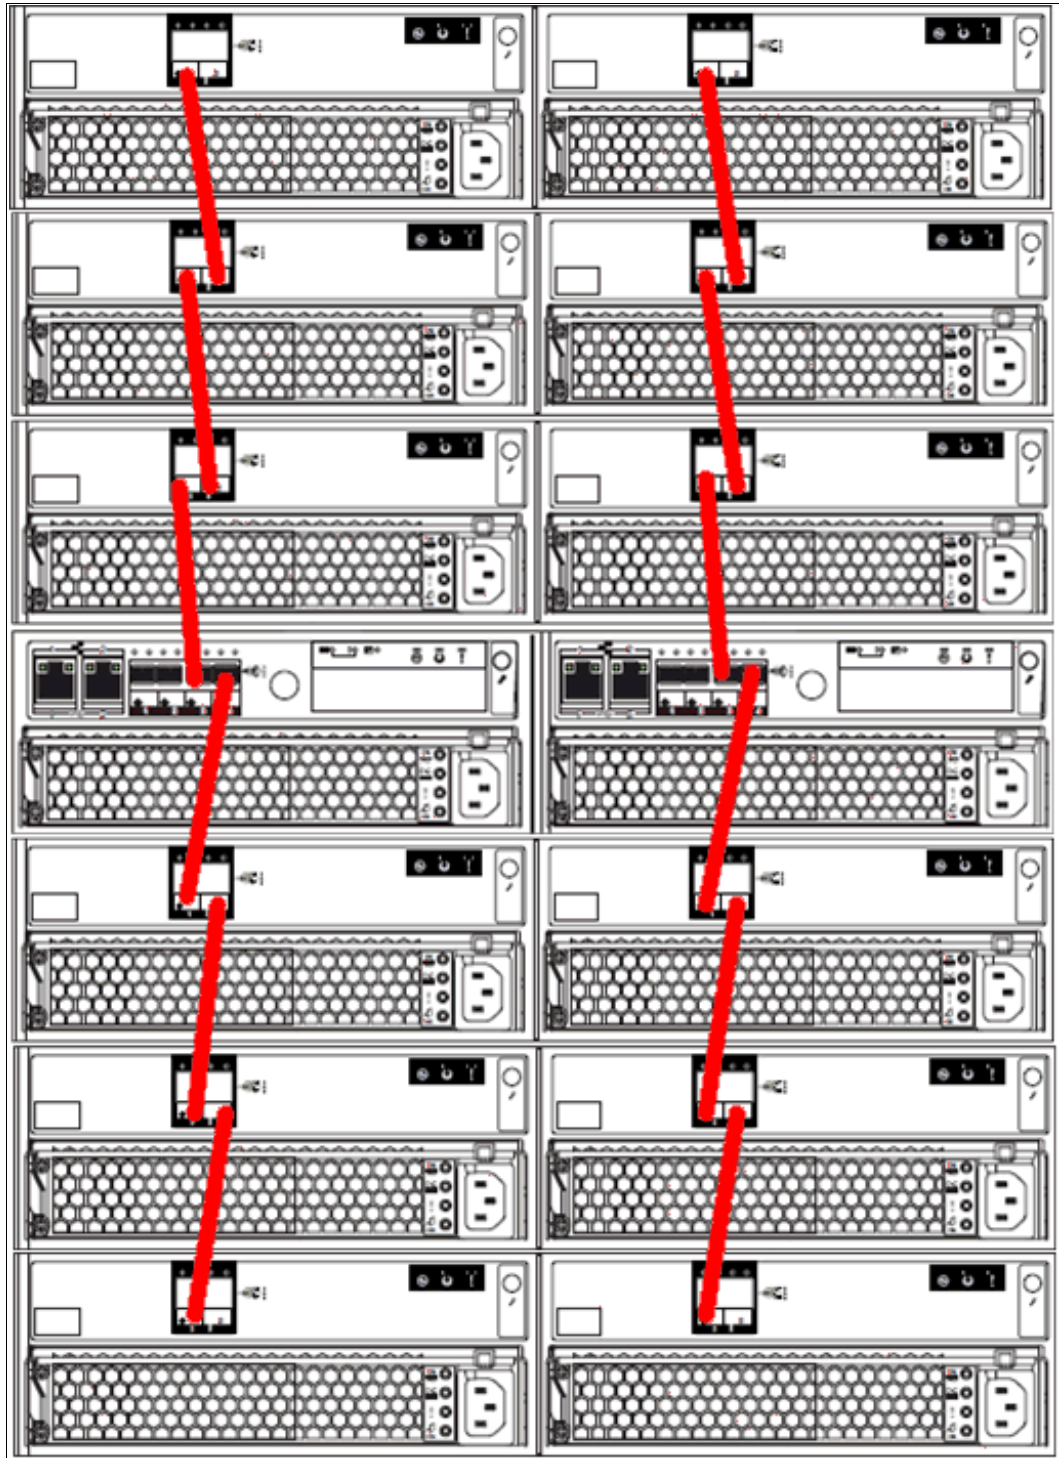

Figure 2-1 Connecting the SAS expansion cables example
- A single 1-meter, 3-meter, or 6-meter SAS cable per expansion enclosure is required. The length of the cables depends on the physical rack location of the expansion relative to the control enclosure or other expansion enclosures. Locate the control enclosure so that up to six enclosures can be located, as shown in Figure 2-1 on page 30. The IBM Storwize V5000 supports two external SAS chains by using SAS ports 3 and 4 on the control enclosure node canisters.
- Connect SAS port 3 of the left node canister in the control enclosure to SAS port 1 of the left expansion canister in the second enclosure (above the control enclosure, as shown in Figure 2-1 on page 30).
- Connect SAS port 3 of the right node canister in the control enclosure to SAS port 1 of the right expansion canister in the second enclosure (above the control enclosure, as shown in Figure 2-1 on page 30).
Disk drives: The disk drives that are included with the control enclosure (model 2077-12C or 2077-24C) are part of the single SAS chain. The expansion enclosures should be connected to the SAS chain as shown in Figure 2-1 on page 30 so that they can use the full bandwidth of the system.